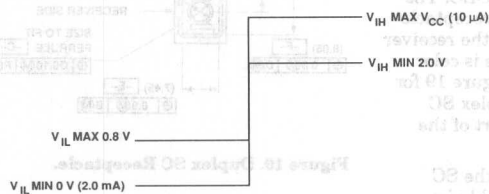

Figure 16. Loopback Enable Receiver Levels.
10. Figure 16 shows the receive levels for the Loopback Enable.